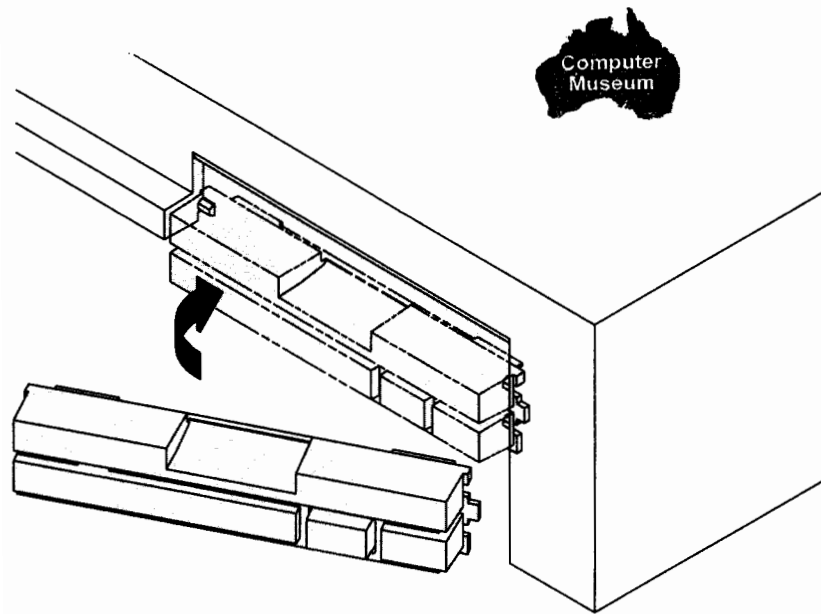

Figure B-6. Installing the Floppy Drive Bezel
4. Snap in the floppy bezel that shipped with your workstation, as shown in Figure B-6.